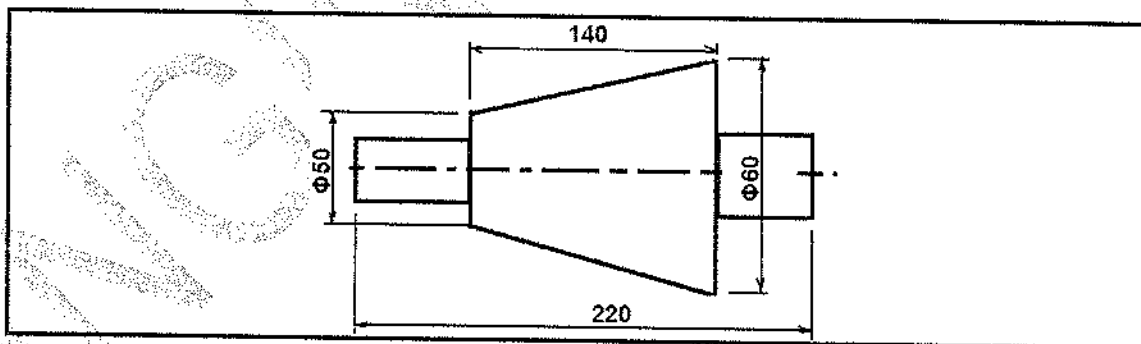

FIGURE 6
11.2 A spindle is to be turned to the dimensions given in FIGURE 6.